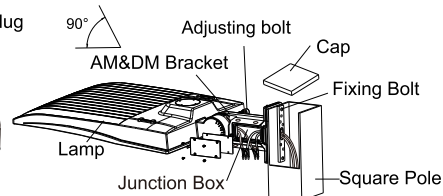

Figure 18
Step 2: Fix A&D bracket to square pole with bolt, open the cover of A&D bracket junction box, pull the wire into bracket junction box, connect the wire properly and cover the junction box. (Figure 18)
Notice: Adjustable angle is 0-90°. (Figure 18)